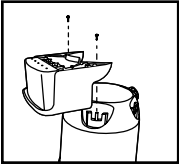

FIGURE 6
5. Take accessory caddy and place into slots located on rear of tank (opposite of drain). Secure with screws provided. **FIGURE 6.**